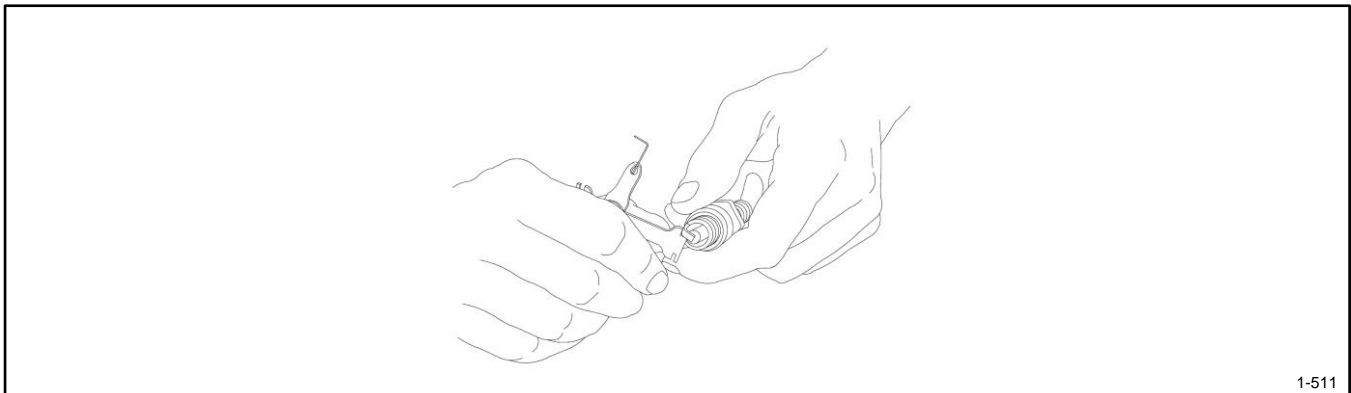

Figure 50 Spark Plug Gap Adjustment
10. Use a gapping tool to gently bend the side electrode closer to or farther from the center electrode to set the correct gap. See Figure 50. Position the side electrode directly over the center electrode.